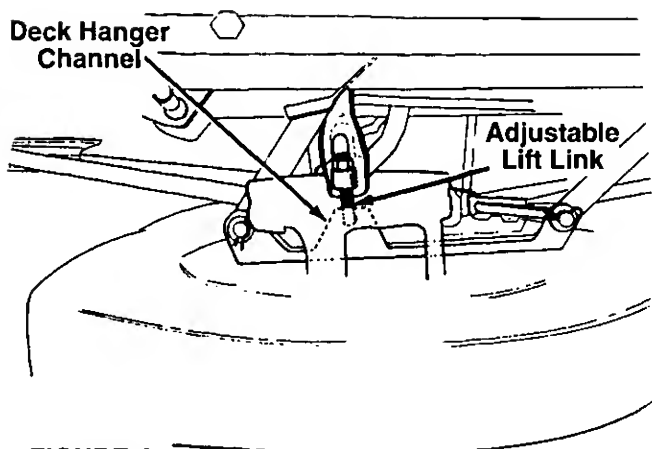

FIGURE 4.
2. Pull the adjustable lift link out of the deck hanger channel. See figure 4. Turn the adjustable lift link up or down as necessary to level the deck. Usually only one or two turns are needed.